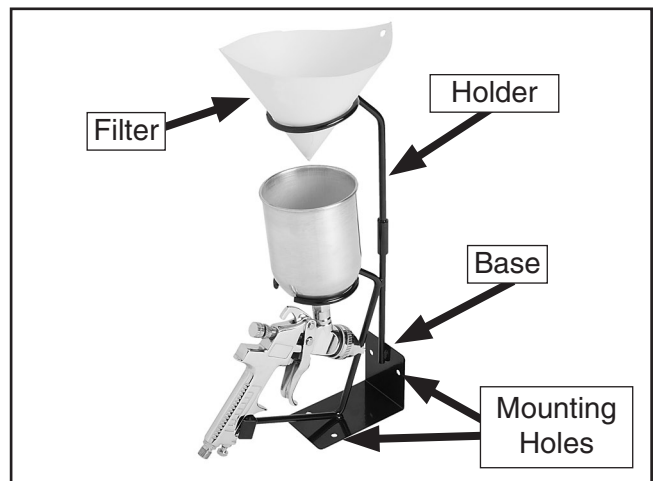

Figure 2. Model H6142 set up to filter paint.
Note: Consider mounting the base to the front of a workbench with the rings facing out for convenience. This also ensures that a spray gun equipped with a pressure gauge or adapter will not hit the bench when mounted on the holder as shown in **Figure 2**.
1. Assemble the base and holder, then position the spray gun and filter (not included) as shown in **Figure 2**.